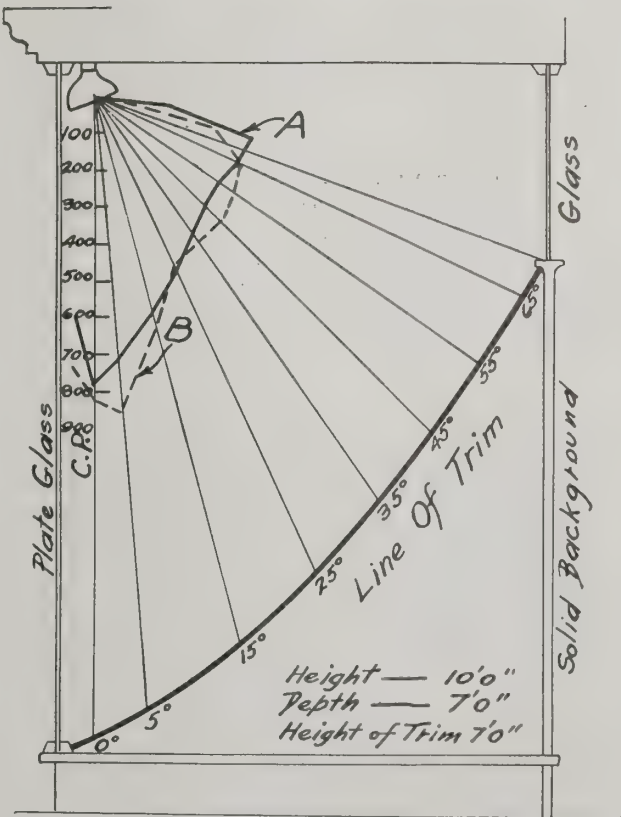

Fig. 1—Cross-sectional view of a typical closed-in window. Note the "Line of Trim."
SHOW-WINDOW construction and methods of trimming, in recent years, have become quite well standardized. The drawing herewith represents in sectional view, the average closed-in window as now used by the better grade department stores, dry-goods stores, men's clothing stores, etc. The usual height from floor to ceiling is about 10 feet; the depth, plate glass to background, 7 feet; and the height of trim on background, 7 feet. The trim is carried out with the low and flat display placed at the front of the window, and the higher vertical objects at the rear. Consequently a "line of trim" may be drawn, to indicate approximately the surface that we should endeavor to uniformly illuminate. With this average line of trim determined, it is an easy matter to calculate the shape of light distribution curve required to give uniform lighting. In Fig. 1, the curve A represents the light distribution from a single lighting unit that will give a uniform intensity of illumination on this assumed line of trim. The candle-power values indicated are calculated to give 9-foot candles. It will be noted that the curve should embrace approximately the angle — 5° to + 75° (where the negative angle means the angle to the left of the nadir). This is a distinctly non-symmetrical distribution of light that is very difficult to obtain, but nevertheless can be closely approximated. The mirror reflector has inherent characteristics which makes possible the attainment of these results to a remarkable degree of exactness. A mirror is a specularly reflecting surface, and within certain limits the distribution of light can be varied. Because of the necessity of employing corrugations to break up the images of the filament and eliminate the resulting streaks and stria in the illumination, perfect control of light in accordance with the law of regular reflection is not secured. However, securing the proper distribution of light is but one
ing units would be visible from the store interior, unless the reflector is designed so as to conceal the lamp filament from the view of the customers within. Then in order that sufficient light may be delivered to the upper part of the background, the reflector must partly be open at the front. In practice, therefore, this opening must be sufficiently restricted to conceal the filament of the lamp and at the same time allow a sufficient volume of light flux to escape in a nearly horizontal direction to illuminate the upper part of the background. With the vacuum style tungsten lamp, the ideal results represented by curve *A* in Fig. 1, could not be very readily secured. In order to light sufficiently high up on the background, it was necessary to expose a considerable portion of the long filament, resulting in a deficiency of apparent candle-power directly downward, and too high an intensity on the background, as well as the possibility of a direct view of the lamp filament from within the store. The concentrated coil filaments of the new gas-filled tungsten lamps have simplified the attainment of these results.
Curve *B* of Fig. 1, shows the light distribution secured with a 100-watt type "C" gas-filled tungsten lamp and a silvered mirror
**Ground Potential.**—If one leg of a three phase transmission line is grounded as at *A* in Fig. 1, will a potential indicator give a deflection if suspended from the grounded leg? If the leg that is grounded be isolated, say, 500 ft. from the other legs, will the indicator give deflection? What does the potential indicator show, voltage to ground or between phases?—*U. F. N.*